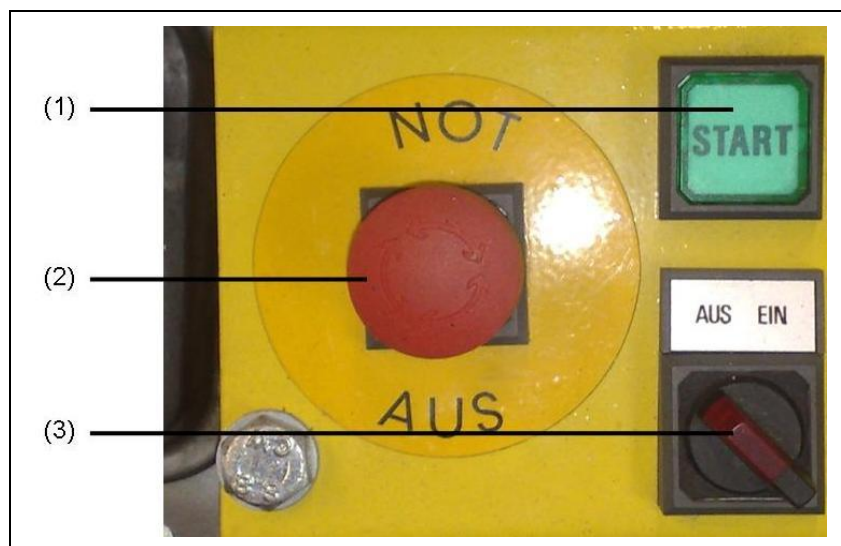

Fig. 5-5: Example of an electrical start in combination with a remote start device
1. The EMERGENCY-OFF button (Fig. 5-5-(2)) must not be pressed.
2. Place operating switch (Fig. 5-5-(3)) in pos. ON.
3. Press the start knob (Fig. 5-5-(1)).
3. Place operating switch (*Fig. 5-5-(3)*) in Pos. OFF.